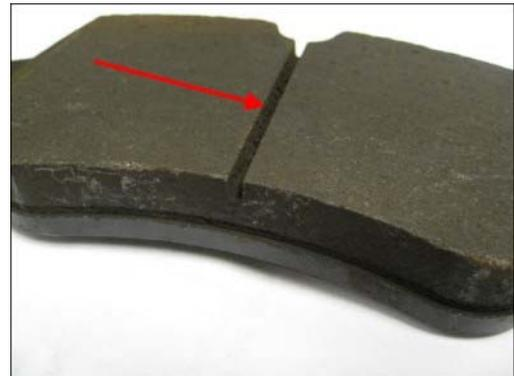

Figure 3. Clean brake pad groove.
5. Clean all grooves with a suitable workshop hand tool (Figure 3).